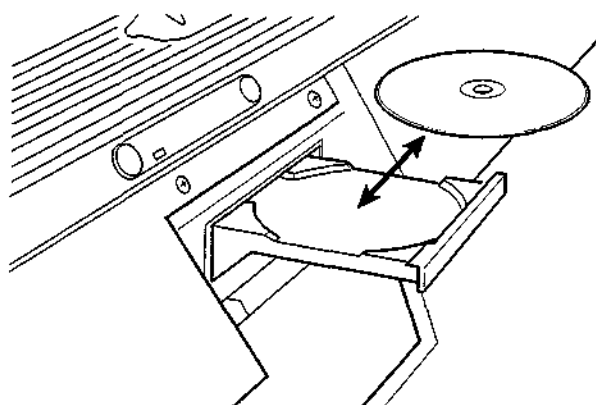

Figure 9. CD-ROM Removal (Later Systems)
5. Gently push on the tray or press the eject button again to close the motorised tray (Fig 9).